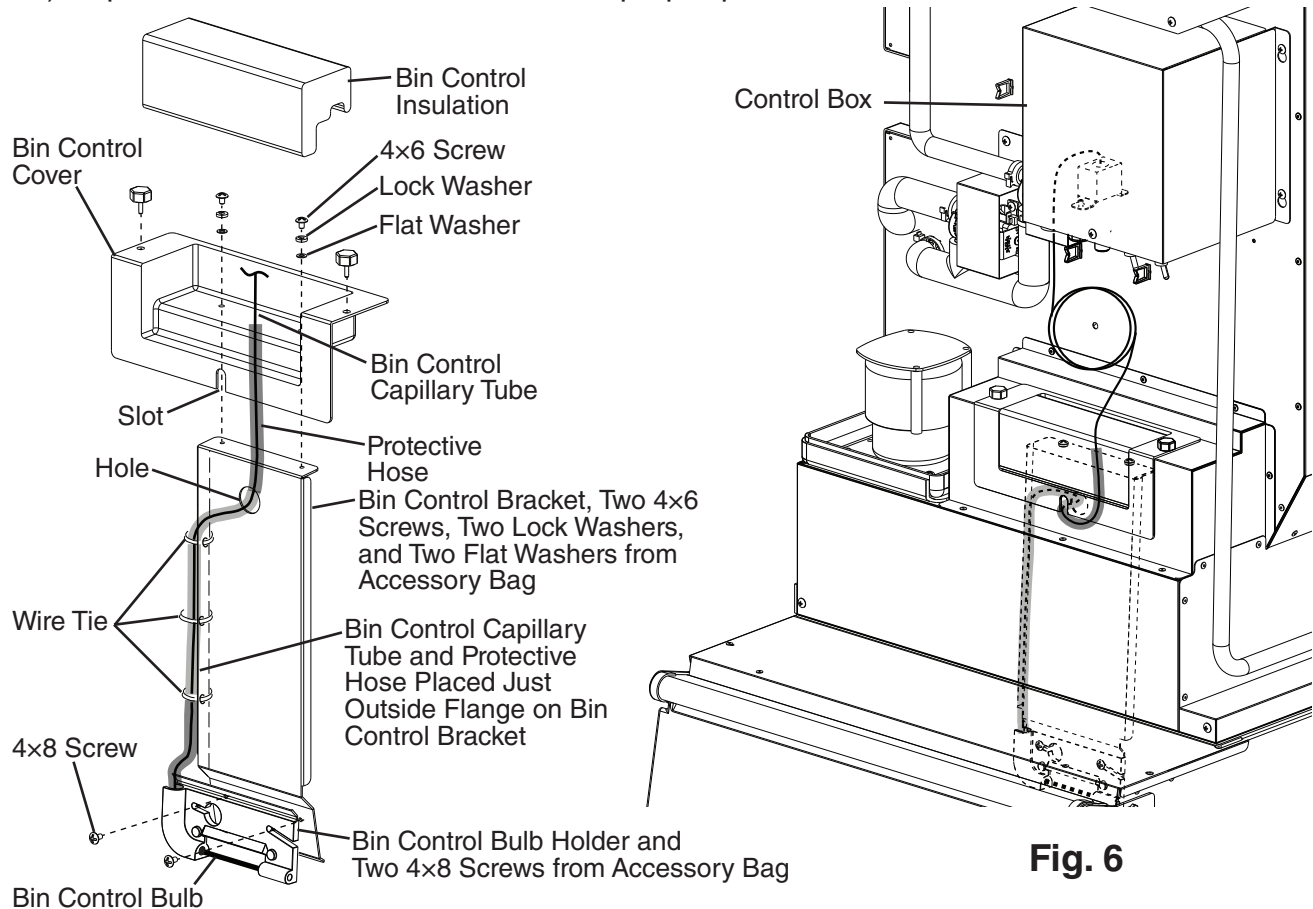

Fig. 6
- 1) Remove the bin control insulation and bin control cover. See Fig. 6.